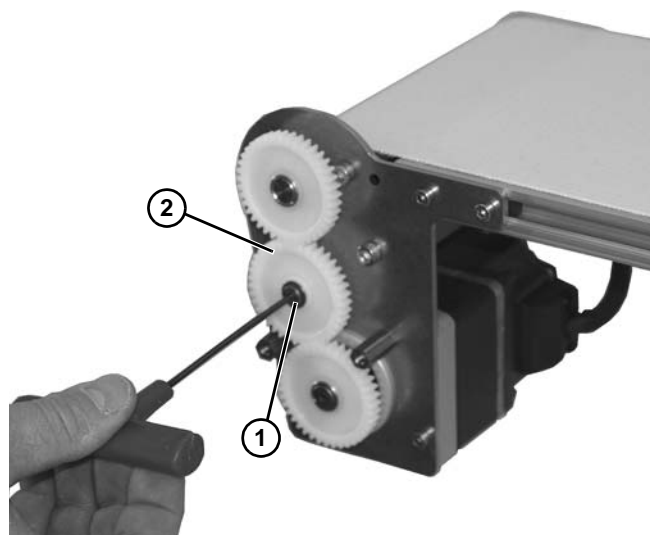

Figure 3
2. Remove screw (Figure 3, item 1) and washer from gear (Figure 3, item 2).